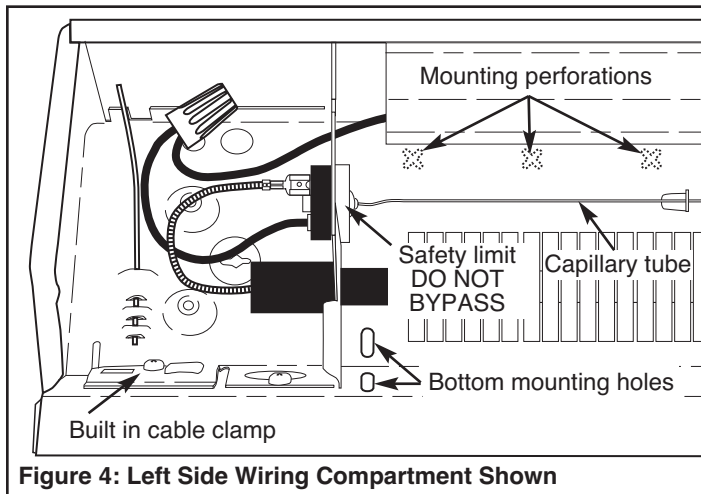

Figure 4: Left Side Wiring Compartment Shown
7. Do not remove or by-pass the safety limit (see Figure 4).
5. Loosen screw in built-in cable clamp (Figure 4) or remove desired knockout from heater wiring compartment. Install power cable into wiring compartment allowing at least 6 in (153mm) of cable for connection to heater. To install two power cables using the built-in cable clamp, bend tab covering second hole up and back to rear wall of wiring compartment. If built-in cable clamp is not used, install approved cable restraint (not included) in desired knockout.
Note: cross stamped mounting perforations are provided in back of heater enclosure above heating element at mounting screw locations, see Figure 4.
Locate studs and drive screws into studs where possible. For heaters up to 6 feet (1.8 m) in length, one screw at each end is adequate. For longer units, an additional screw in center is required. Tighten screws and then loosen screws at least ¼ turn to allow heater to expand and contract during use. If unit is mounted above floor, two additional mounting holes are supplied at each end below the heating element (see Figure 4). Install an additional screw at each end for stability making sure to loosen each screw at least ¼ turn.
Painting of this baseboard is not necessary unless to match room decor. To paint, first rough up the exterior with steel wool. Paint only the exterior of the cabinet. Do not allow paint on the element and safety limit capillary tube (Figure 4). Use a high quality enamel paint.